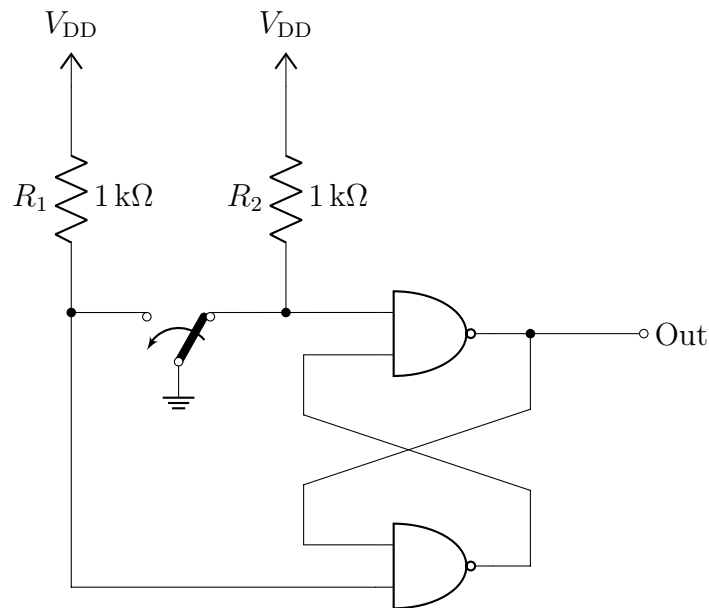

Figure 8: Debounced Switch Using 2 NAND Gates (SR Latch)
1. Using the NAND gate you built above with discrete AND and Inverter gates, build the circuit shown in Figure 8.